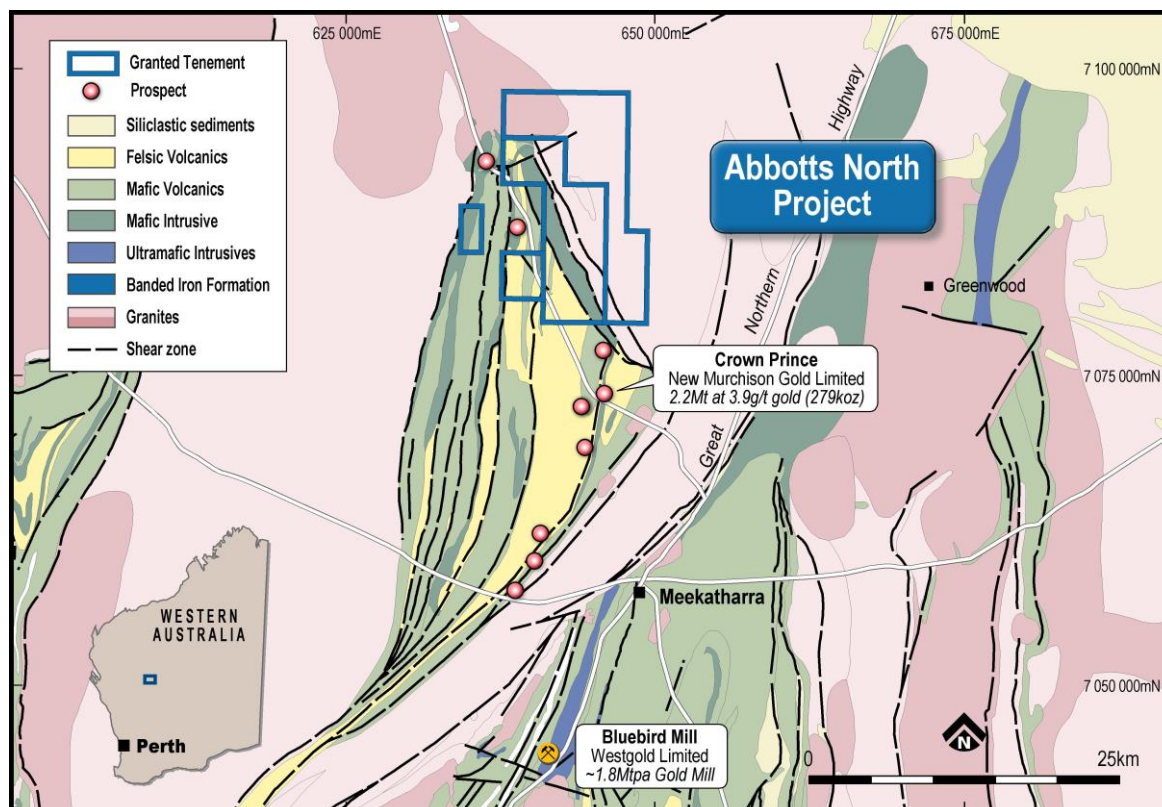

Figure 1: Abbots North project location and regional geology
**Premier1 Lithium Limited (ASX:PLC)** ("**Premier1**" or the "**Company**") is pleased to announce the completion of a high-resolution ground gravity survey at the Rochefort Gold Prospect ("Rochefort"), part of its Abbots North Project ("Abbots North"). The project is located approximately 35 km north of Meekatharra in Western Australia's highly endowed Murchison region (*Figure 1*) and ~20 km north of the producing Crown Prince deposit (2.2Mt @ 3.9g/t Au for 279koz) owned by New Murchison Gold Ltd, within the same Abbots Greenstone Belt.
The Project falls within the Abbotts Greenstone Belt in the northern Murchison Domain of the Yilgarn Craton. The belt forms part of the northeast-trending Meekatharra Structural Zone and is structurally positioned between the Carbar Fault and Chunderloo Shear Zone. The margins of the belt are structurally complex, and the belt is bounded to the east, west and north by granites and monzogranites (*Figure 1*).
Approximately 4 km south of the Abbots North Project lies the Crown Prince deposit, owned by New Murchison Gold Ltd (ASX:NMG) (*Figure 1*). Situated on a splay off the major Abernethy Shear Zone - which runs along the southeastern margin of the Abbots Greenstone belt - the structure, along with parallel splays, is interpreted to extend northward into Premier1's tenure.